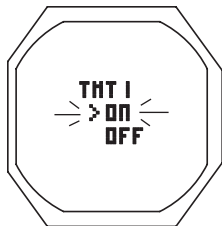

Fig. 57A - SET TMT 1
**Set TMT 1**, information includes (Fig. 57A):